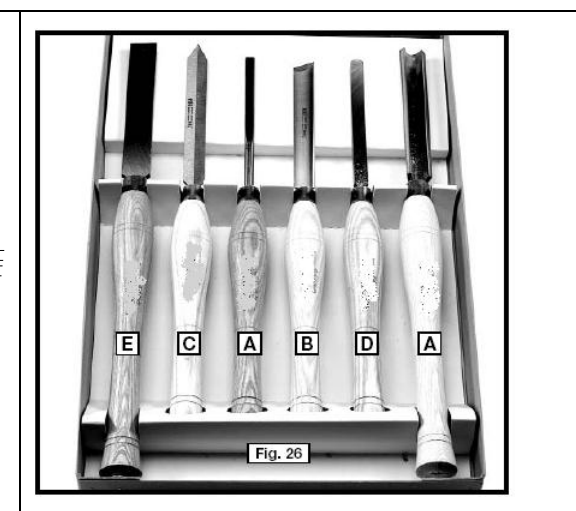

Fig.10
Standard wood turning tools come in several different configurations (Fig. 10). The majority of turnings will require the gouge tool (A) Fig. 10. This round nosed hollow chisel is used for roughing cuts, cove cuts and other operations. The skew chisel (B) is a double-ground flat chisel, with an angled end. This tool is used for smoothing cylinders, for cutting shoulders, beads, vee grooves, etc. The parting tool (C) is a double-ground chisel, used for cutting-off, or for making straight incisions or sizing cuts to any required diameter. The round nose scraper (D) is used for mostly hollowing work, while the square-end scraper is mainly used for the outside of bowls.